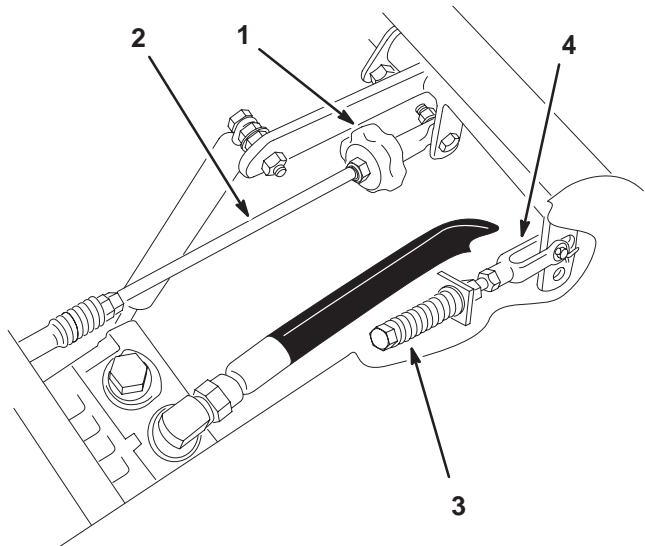

Figure 54
2. Adjust pump rod length by rotating the knob, in the appropriate direction, until the wheel is still or slightly creeping in reverse (Fig. 54).